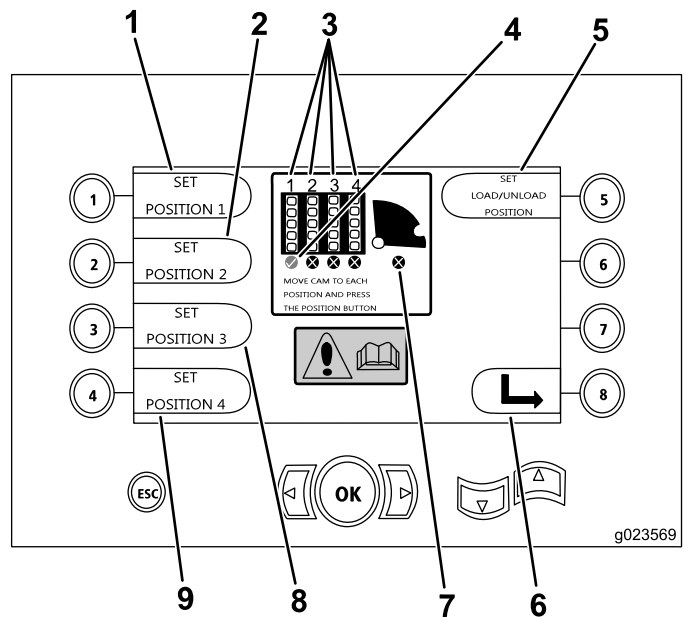

Figure 30
- Button 1—Set position 1 (Figure 30)
- Button 2—Set position 2 (Figure 30)
- Button 3—Set position 3 (Figure 30)
- Button 4—Set position 4 (Figure 30)
To set the load or unload position, press button number 5 (Figure 30).